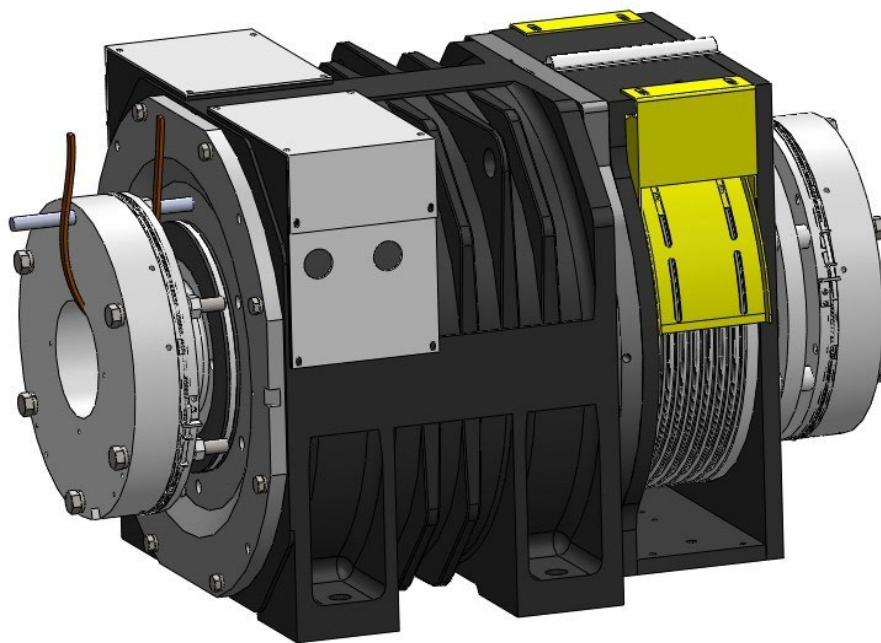

Figure 45 Remove Normal Brake
6. Remove other 5 bolts M16x165 evenly, move out the normal brake; and then hoist out the brake with hoisting ropes and remove brake coil body and friction lining. See Figure 45.